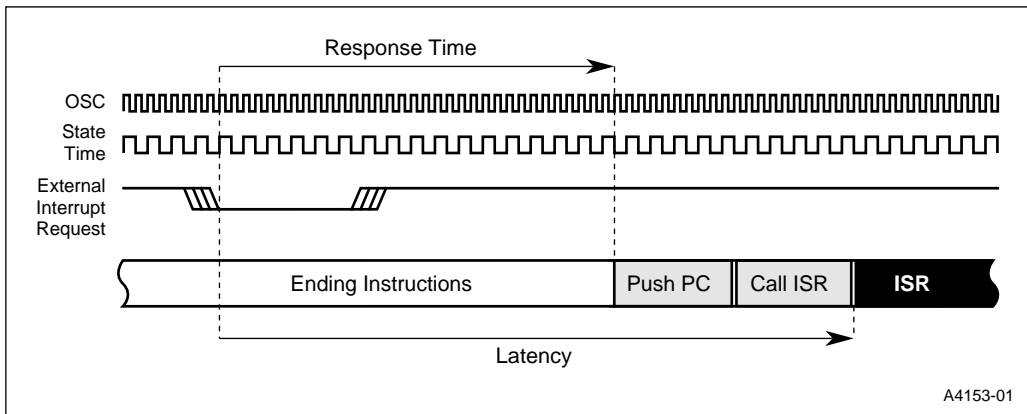

Figure 5-5. The Interrupt Process
Interrupt processing is a dynamic operation that begins when a source requests an interrupt and lasts until the execution of the first instruction in the interrupt service routine (see Figure 5-5). *Response time* is the amount of time between the interrupt request and the resulting break in the current instruction stream. *Latency* is the amount of time between the interrupt request and the execution of the first instruction in the interrupt service routine. These periods are dynamic due to the presence of both fixed-time sequences and several variable conditions. These conditions contribute to total elapsed time.
All interrupts are sampled or polled every four state times (see Figure 5-5 on page 5-9). Two of eight interrupts are latched and polled per state time within any given four-state time window. One additional state time is required for a context switch request. For code branches to jump locations in the current 64-Kbyte memory region (compatible with MCS 51 microcontrollers), the context switch time is 11 states. Therefore, the minimum fixed poll and request time is 16 states (4 poll states + 1 request state + 11 states for the context switch = 16 state times).
Response time is defined as the start of a dynamic time period when a source requests an interrupt and lasts until a break in the current instruction execution stream occurs (see Figure 5-5 on page 5-9). Response time (and therefore latency) is affected by two primary factors: the incidence of the request relative to the four-state-time sample window and the completion time of instructions in the response period (i.e., shorter instructions complete earlier than longer instructions).
When an interrupt vector cycle is initiated, the CPU breaks the instruction stream sequence, resolves all instruction pipeline decisions, and pushes multiple program counter (PC) bytes onto the stack. The CPU then reloads the PC with a start address for the appropriate ISR. The number of bytes pushed to the stack depends upon the INTR bit in the CONFIG1 configuration register (see Figure 13-4 on page 13-8). The complete sample, poll, request and context switch vector sequence is illustrated in the interrupt latency timing diagram (see Figure 5-5 on page 5-9).